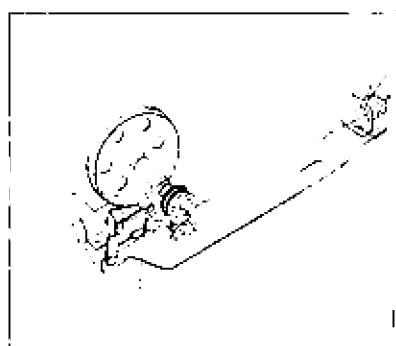

Fig.6
5. WINDING (Fig.6)
6. WINDING ADJUSTMENT (Fig.6)